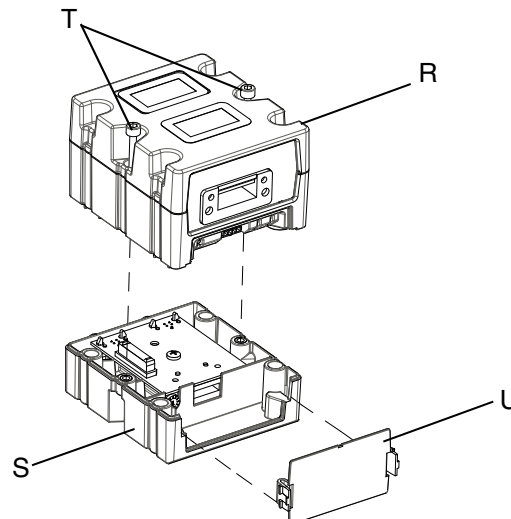

FIG. 22: Disassembling the CGM
5. Remove the access cover from the CGM (U). Loosen the two screws (T) and remove the CGM (R) from the base (S) as shown in **Figure 22**.